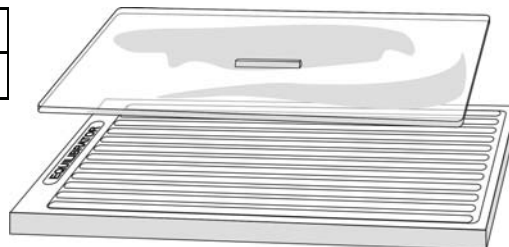

Fig. 4.1
2. Equilibrate each strip (gel-side up) in 3 mL (11 cm strips) or 2 mL (7 cm strips) solution in an equilibrator (fig. 4.1) on an orbital shaker with 30 rev/min: